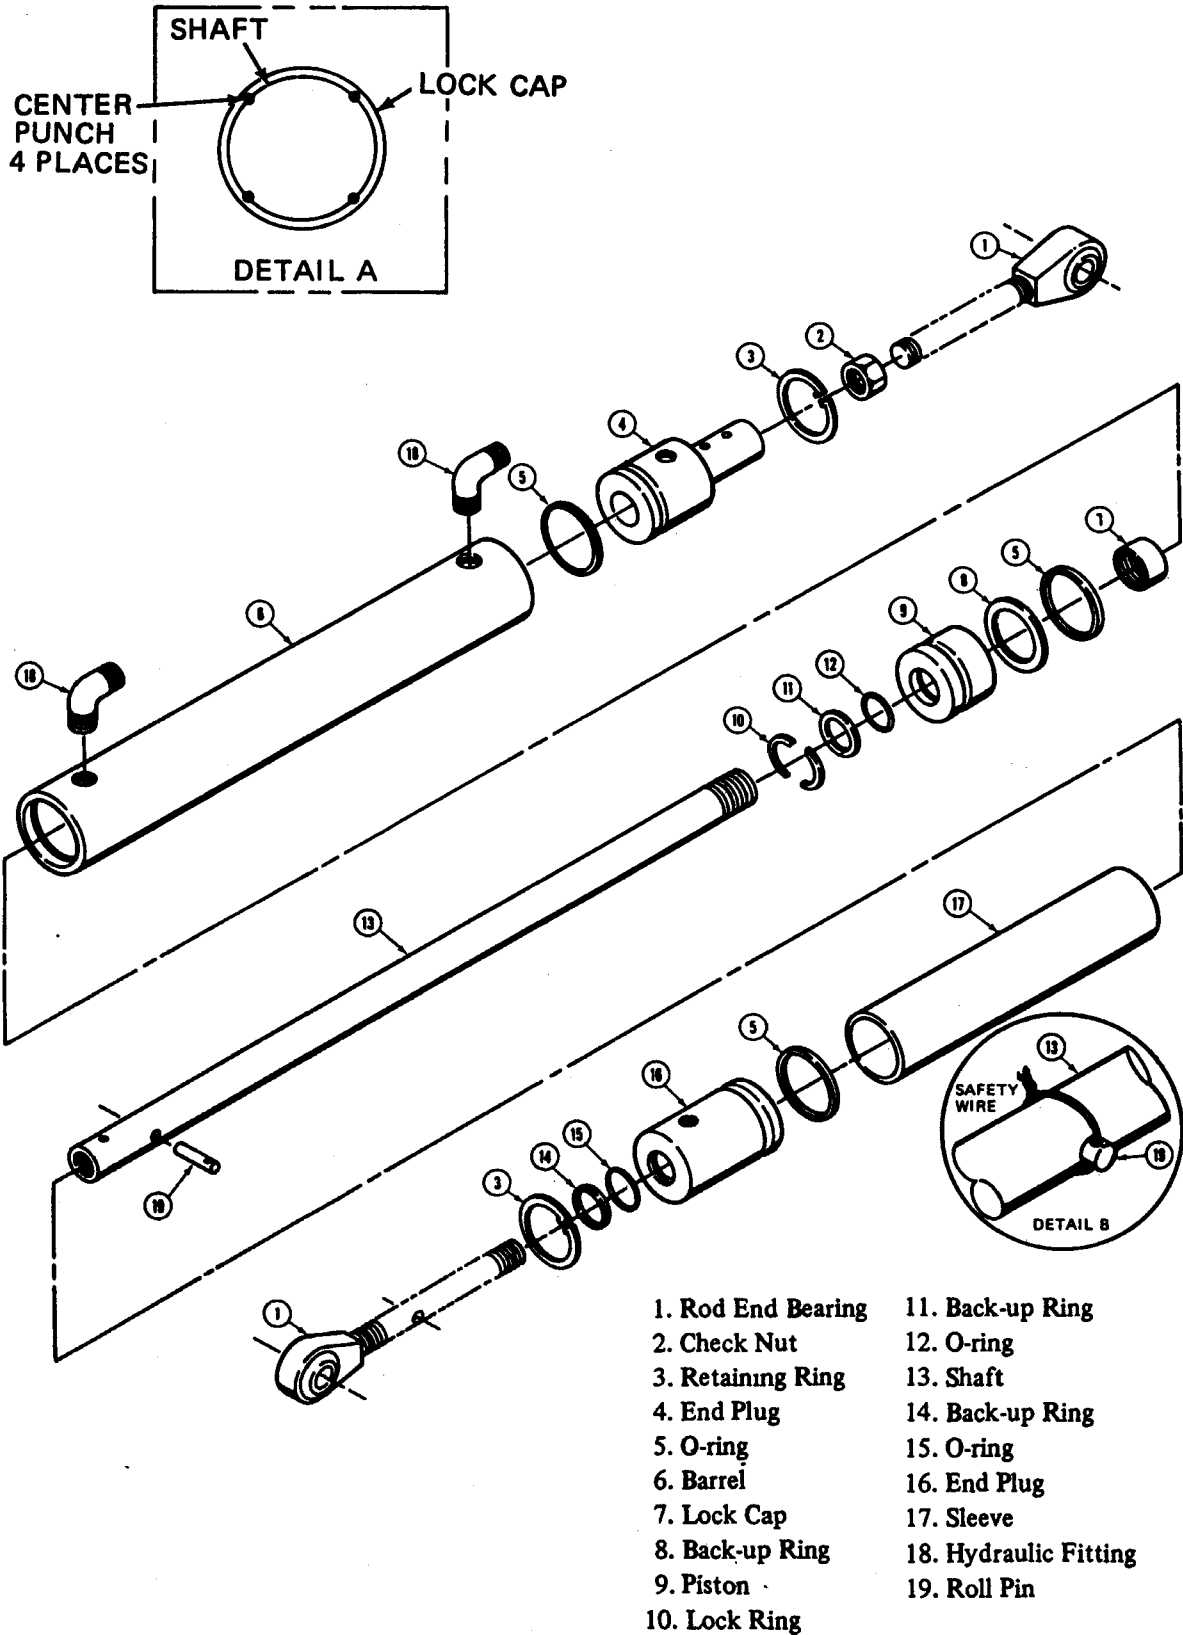

Figure 7-18. Nose Gear Door Actuating Cylinder, Aircraft Serial Numbers 79-30906 and above.
(Figure 7-18). On Aircraft Serial Number 79-30906 and above, perform the following procedures to disassemble and repair the nose gear door actuating cylinder or replace O-rings.
(3) When the O-ring (12) and back-up ring (11) are installed, do not install them over the threaded end of the shaft.
(4) When the piston (9) and lock cap (7) are installed on the shaft (13), use a center punch and stake the cap and shaft in four places (see Figure 7-18, Detail A).
(5) Lubricate the O-rings and surfaces on the inside of the barrel that will make contact with the O-rings with the same type hydraulic fluid that will be used in the system (see Table 7-1), before assembling components inside the barrel.
(6) Check to see that the check nut (2) is tight and properly safetied to end plug (4).
(7) Ensure that the roll pin (19) is properly safetied to the shaft (see Figure 7-18, Detail B).